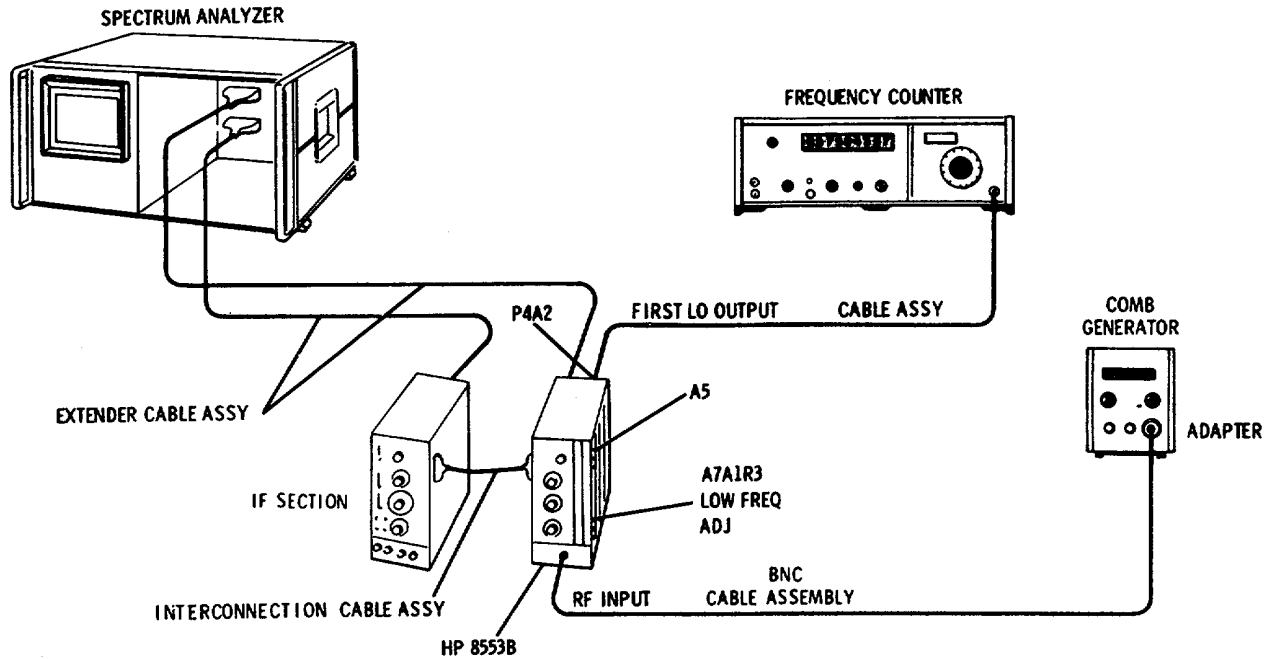

Figure 5-1. First Local Oscillator Adjustment Test Setup
1. Connect the setup in Figure 5-1. Make the following control settings: